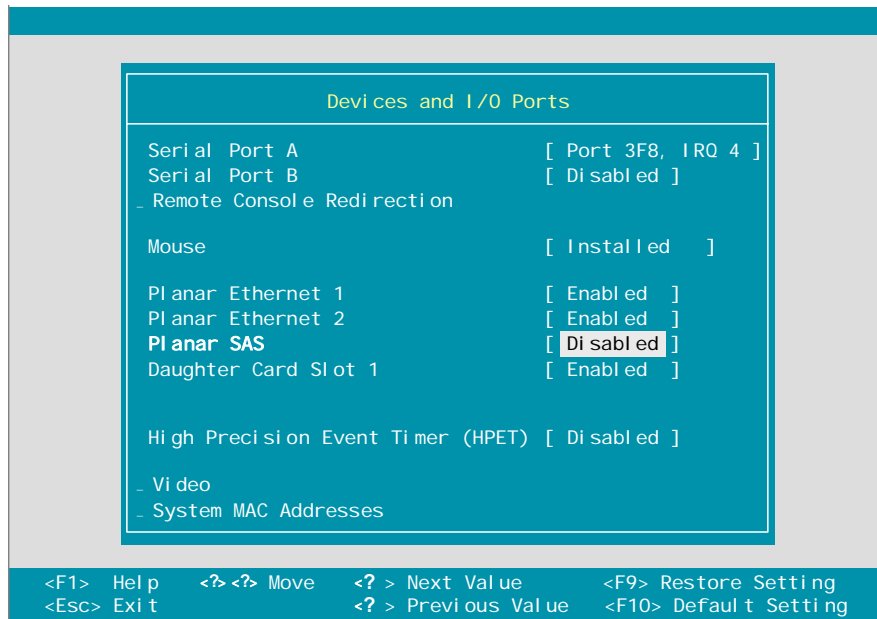

Figure 6-1 Disable Planar SAS
8. Disable the onboard SAS planar in BIOS of the HS21 by going to the Devices and I/O Ports menu and set Planar SAS to *Disable* as shown in Figure 6-1.